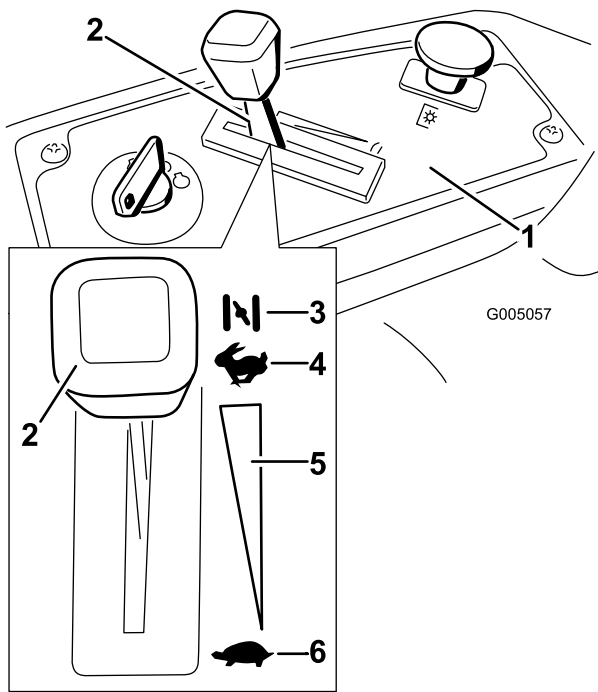

Figure 12
3. Move the throttle lever to Choke before starting a cold engine (Figure 12).
- After the engine starts, move the throttle lever to Fast (Figure 12). If the engine stalls or hesitates, move the throttle lever back to Choke for a few seconds. Repeat this as required.
3. Turn the ignition key to Off (Figure 12) and remove the key.